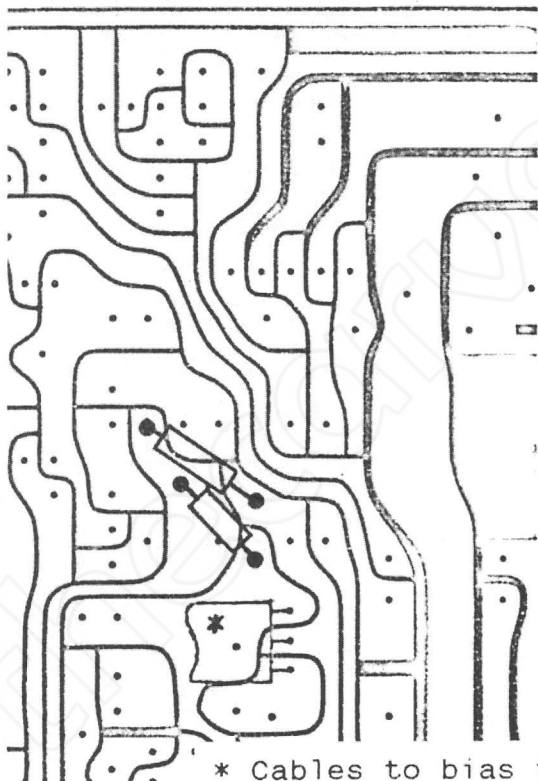

Fig. 4
2. Install 51 K $\Omega$  resistors on the foil side of the main board as indicated in Fig. 4 and 5.